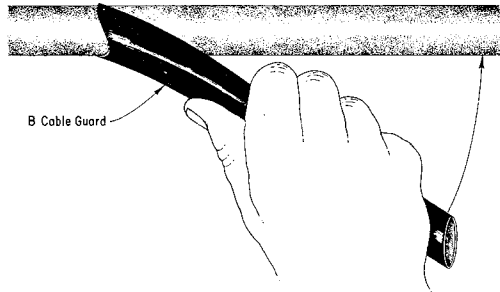

Fig. 14—Installing B Cable Guard
- (a) 1/2 inch and 1 inch B Cable Guards with the ends cut at 60 degrees are held at right angles to the cable with the slit pointed end forward. Push the guard to cause the pointed ends to ride over the cable. Move the lower end of the guard up to the cable forcing the guard over the cable as shown in Fig. 14.